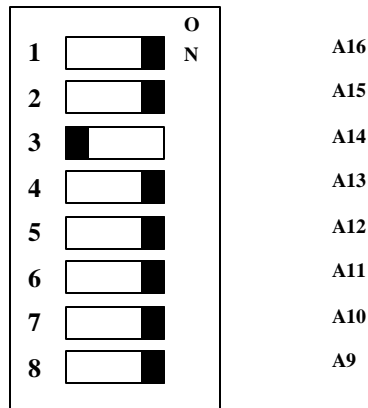

Fig 2.1. Address selection switch.
The VME-interface is 8-bit of A16:D08(O) slave type and the VME-address is switch settable within the 64-kB short I/O-range. The card occupies 256 bytes of address space. A switch setting "ON" corresponds to logical low, a switch setting "OFF" corresponds to logical high. At delivery all switches are set to "OFF". This setting corresponds to address FFXXh. An example of switch setting for address 20XXh is shown in fig. 2.1.